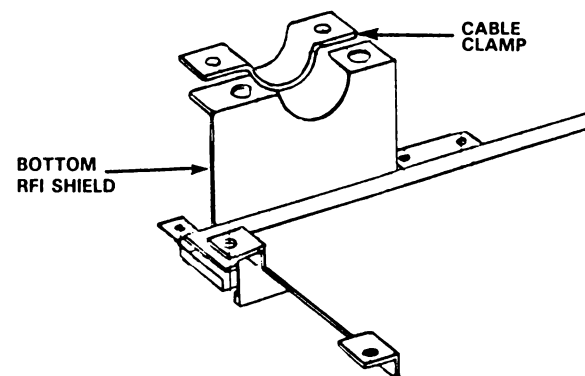

Fig. 3-2. Cable Clamp
3.1.3 Place the CABLE CLAMP on the bracket of the bottom RFI shield as shown in Fig. 3-2. Slide the INTERFACE CABLE into the rear case slot.